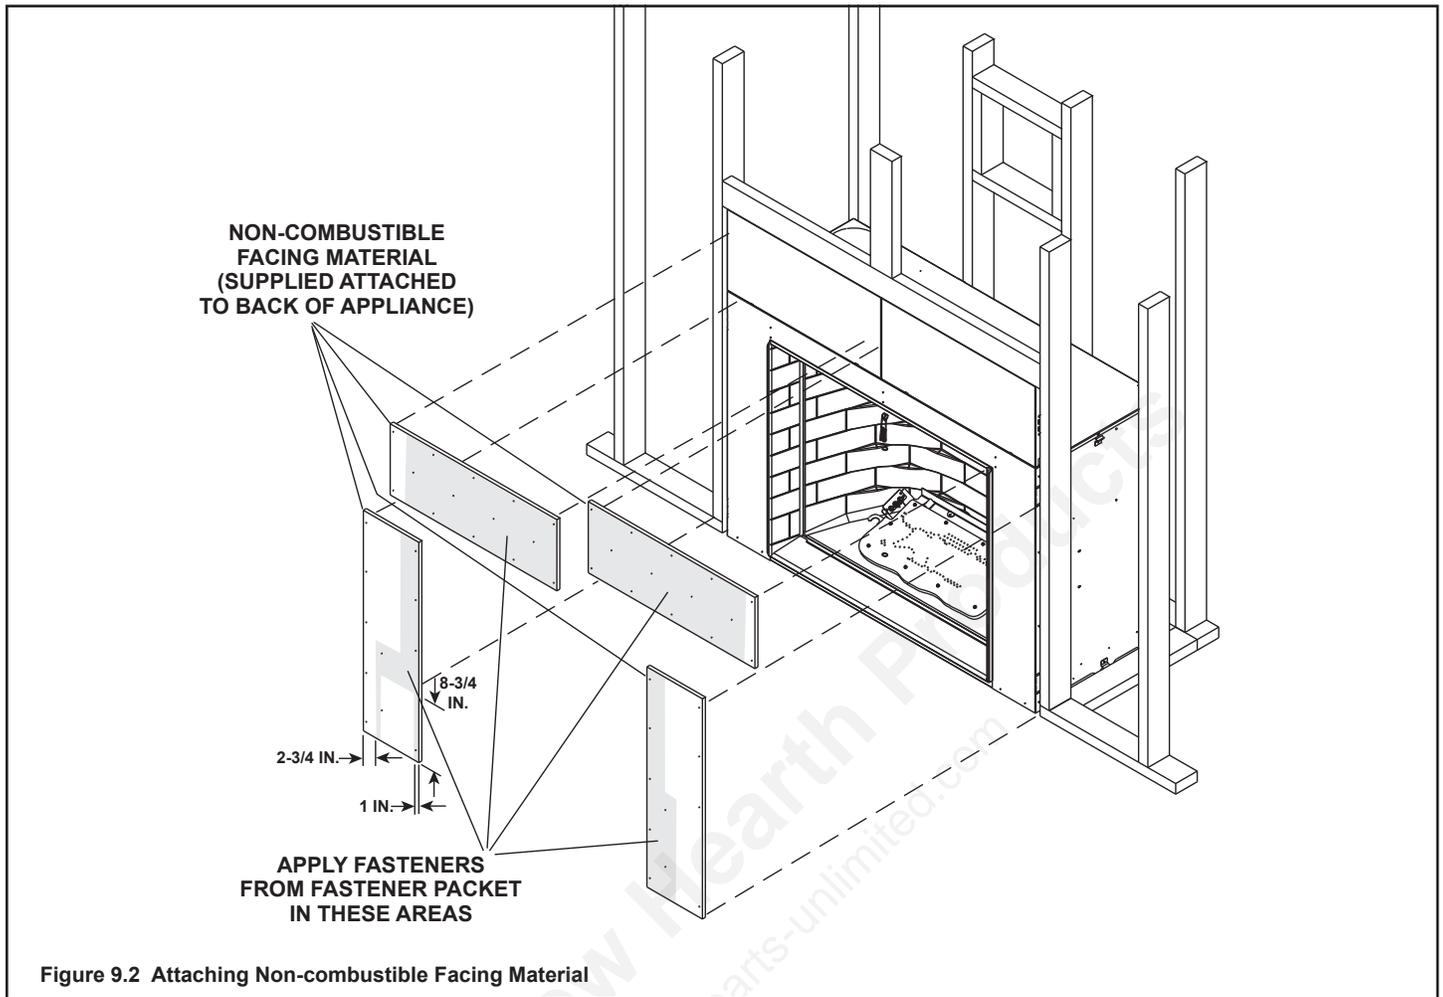

Figure 9.2 Attaching Non-combustible Facing Material
- Center and attach two top boards to the framing members. See Figure 9.2.